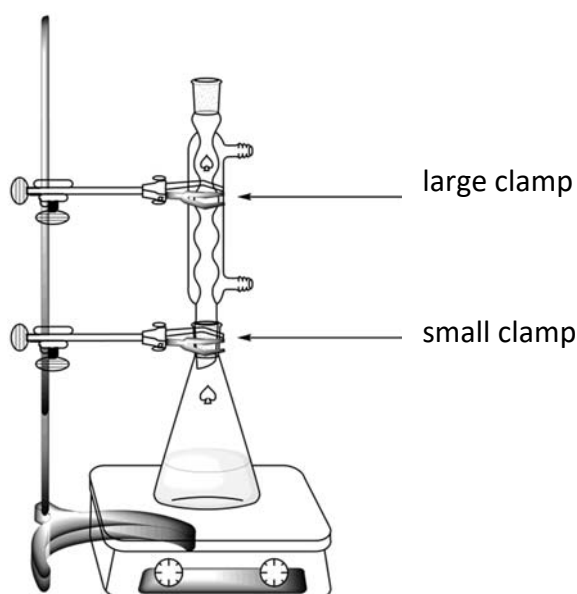

Figure 1. Setup for heating the reaction mixture under reflux
4. **Attach** the reflux condenser by loosening the large clamp and adjusting the ground joints (see Figure 1). **Raise** your HELP card. A lab assistant will come to turn on the water and set the hotplate.
2. **Perform** the recrystallisation of the crude product contained in the 50 mL ground-joint Erlenmeyer (conical) flask with the appropriate amount of this water/ethanol mixture, using the same setup as for the reflux heating (see Figure 1). **Raise** your HELP card. A lab assistant will come to turn on the water and set up the hotplate. **Add** the solvent through the top of the condenser.